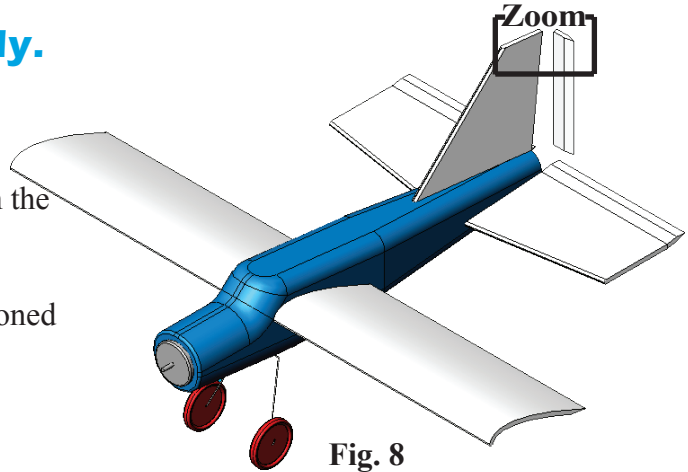

Fig. 8
Step 3. **Browse** and place **RUDDER** as positioned in **Fig. 8**.
Step 1. Zoom in on the **top end of V stab and Rudder**, **Fig. 8**. To **zoom**, hold down **Shift** key and drag middle mouse button (wheel). To **pan**, hold down **Ctrl** key and drag middle mouse button (wheel).